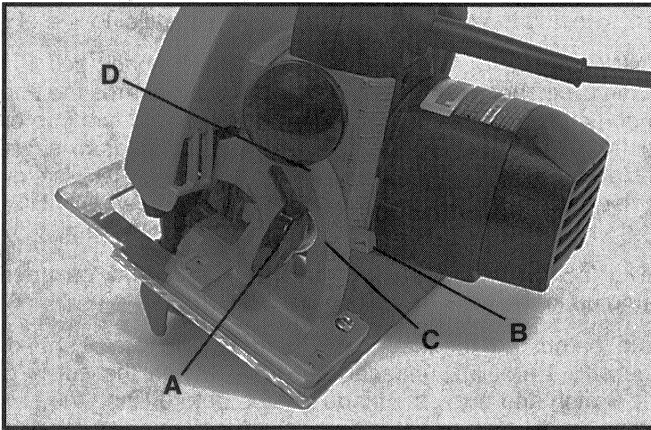

Fig. 7
2. Loosen the bevel adjusting knob (A) Fig. 7.
3. Swing the base until the indicator (B), Fig. 7, lines up with the desired graduation line on the angle segment (C), and tighten knob (A).
4. Your saw is equipped with an adjustable positive stop at the 45 degree bevel position. After making a preliminary setting following the above steps, make a cut on a piece of scrap wood and check the accuracy of the setting. Turn set screw (D) Fig. 7, inward or outward as needed to produce a true 45 degree bevel cut. With the set screw (D) accurately positioned, the base will return to the same 45 degree setting without need for visual alignment of the graduation markings.